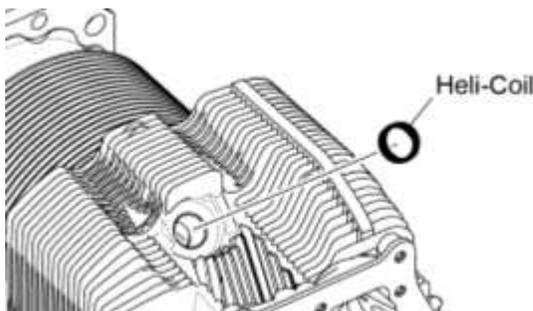

Figure 39
- A. Replace the spark plug Heli-Coil® insert (Figure 39) in the cylinder head if the threads in the spark plug hole in the cylinder are damaged (usually occurs when hard carbon on the end of the spark plug causes the insert to unwind during spark plug removal).